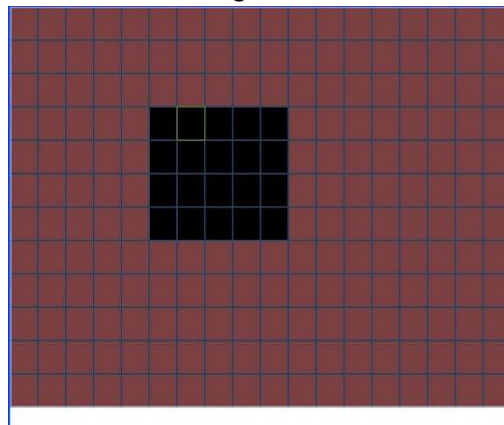

Figure 4-15
- Region: Select region from Figure 4-15 and you can specify a motion detection zone. There are 396(PAL)/330(NTSC) small zones.
**Note:** In motion detection mode, you can not use the copy/paste feature to set channel setup. The recorded video of each channel may not be the same. In Figure 4-15, you can left click mouse and drag it to set a region for motion detection. Click Fn to switch between active/passive motion detection. After completing setup, please press enter to exit or right click to return to the previous menu